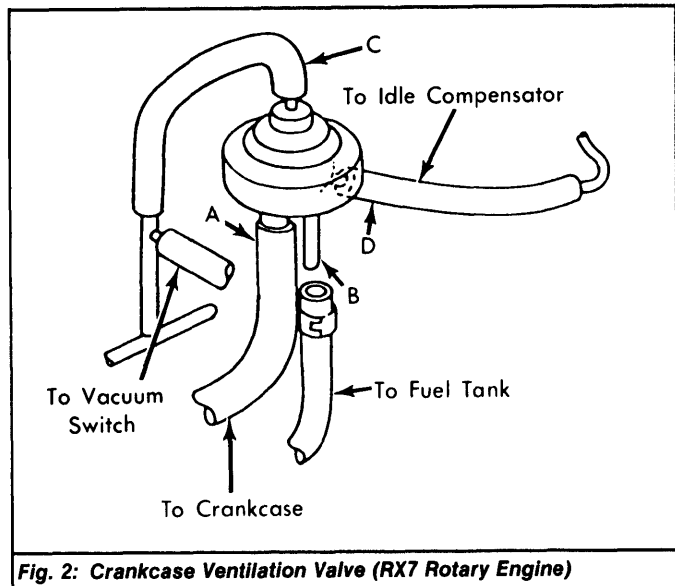

Fig. 2: Crankcase Ventilation Valve (RX7 Rotary Engine)
2) If vacuum is present, continue holding finger over port "A" and disconnect port "C" making sure there is no vacuum at port "B". See Fig. 2. Stop engine.